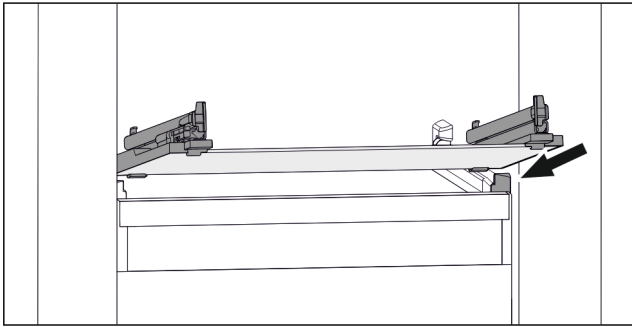

Fig. 112 Example illustration of glass shelf
- ▶ Position glass shelf at an angle behind the stoppers. (see *Fig. 112*)